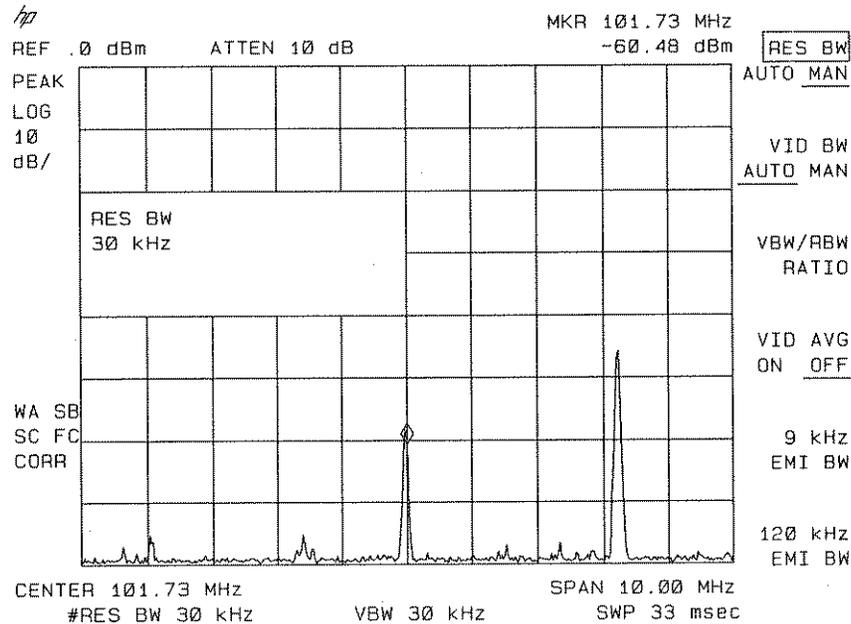

Figure 6-18. Decreasing Resolution Bandwidth
2. Press **BW**, **▼**. The low-level signal appears more clearly because the noise level is reduced. See Figure 6-18.